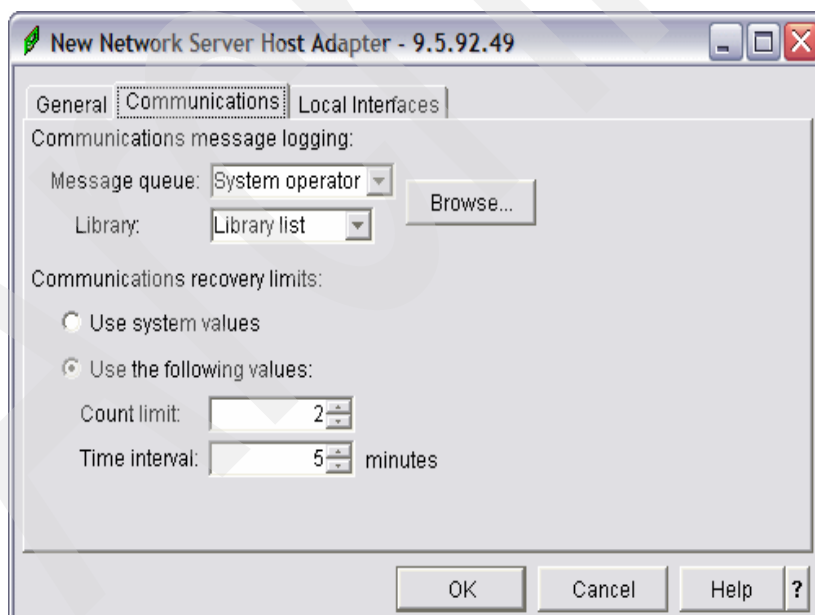

Figure 4-16 Communications tab of new NWSH
8. Fill in the communications page (Figure 4-16). Using the defaults should be fine, although you might want a specific message queue for communications messages.